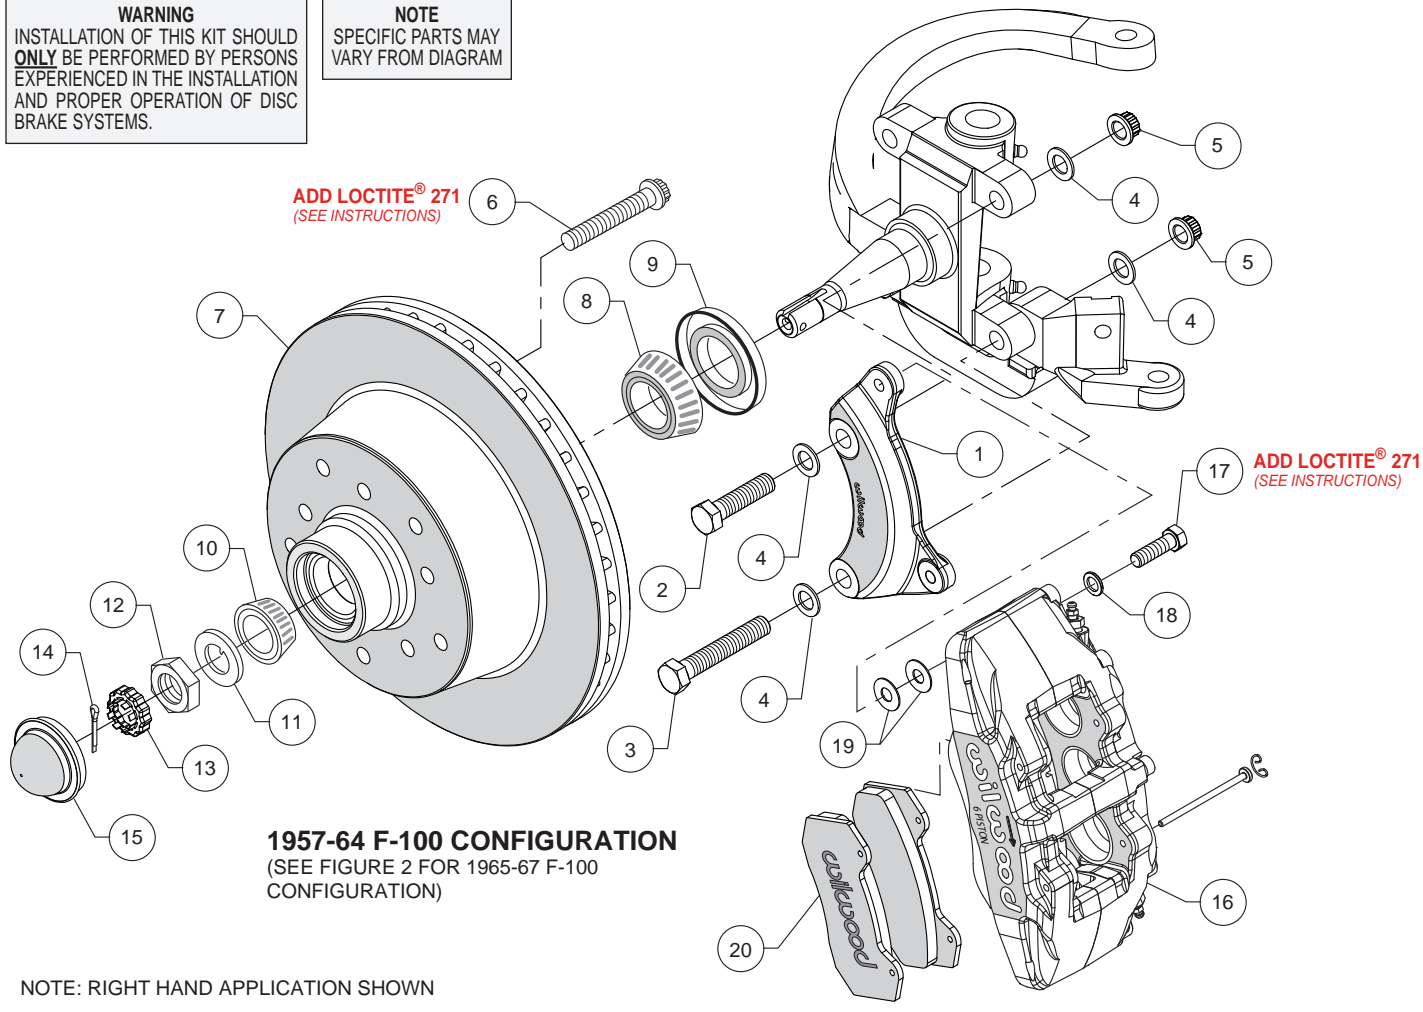

Figure 1. Typical Installation Configuration, Model Years 1957-1964
**Assembly Instructions** (numbers in parenthesis refer to the parts list, on the preceding page and Figure 1).
- Orient the caliper mount bracket (1) as shown in Figure 1 or 2, and Photo 1, and install using bolts (2 and 3), washers (4) and nuts (5). Temporarily tighten the mounting bolts. **NOTE:** The bracket must fit squarely against the mount bosses on the upright. Inspect for interference from casting irregularities, machining ridges, burrs, etc. Torque lock nuts to 65 ft-lb.
- Install wheel studs (6) into the hub (7), Photo 2. Apply red *Loctite*® 271 to the threads and torque to 77 ft-lb. **NOTE:** There are two five lug patterns in the hub (5 x 4.50 and 5 x 5.50). Ensure the correct hub stud pattern is being used to fit the wheel application.
- Pack the large inner bearing cone (8) with high temperature disc brake bearing grease (available from your local auto parts store) and install into the backside of the hub (7), Photo 3.
- Install the grease seal (9, years 1957-1964) or (9A, years 1965-1967) by pressing into the backside of the hub (7), flush with the end of the hub. **NOTE:** If unsure which seal is correct for your application, match the number on the seal to the item description in the parts list on page 3. Alternatively, slip the seal onto the spindle to check for proper fitment before installing into rotor.
- Press the dust cap (15) into the hub (7), Photo 6. **NOTE:** Do not hammer center of cap. Install using outer flange only.
- NOTE:** This kit contains distinct right and left hand calipers that must be mounted in a specific direction, as described below. Mount the caliper (16) onto the caliper mounting bracket (1) using bolts (17) and washers (18), as shown in Figure 1 or 2. Initially place two .035" thick shims (19) on each bolt between the caliper and the bracket, Photo 7. Ensure that the caliper is mounted so the largest pistons are at the rotor exit end of the caliper, in relation to the direction of rotor rotation. Temporarily tighten the mounting bolts and view the rotor (7) through the top opening of the caliper. The rotor should be centered in the caliper, Photo 8. If not, adjust by adding or subtracting shims (19) between the bracket and the caliper. Always use the same amount of shims on each of the two mounting bolts. If necessary place spare shims between washer (18) and caliper mounting ear to achieve the proper clinch nut engagement. Once the caliper alignment and clinch nut engagement are correct, remove the caliper.
- Remove the two pad retaining pins from the caliper (16) by carefully popping out the pin retaining clips and sliding out the pins. Insert the brake pads (20) into the caliper from the bottom, Figure 1 or 2, and Photo 9, with the friction material facing the rotor. Secure the brake pads in place with the pad retaining pins and clips, Photo 10. Reinstall the caliper onto the caliper mounting bracket. Apply red *Loctite*® 271 to bolt threads (17), and torque to 40 ft-lb.